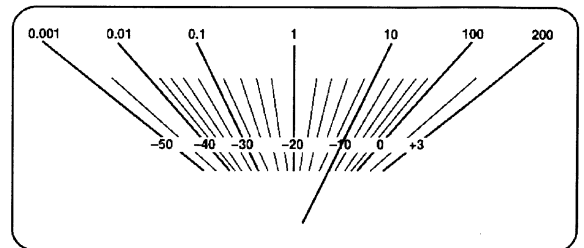

Fig.4
5. Adjust **VR909 (L ch)** and **VR910 (R ch)** so that the power meter indicates **10 W**. Shown in Fig.4